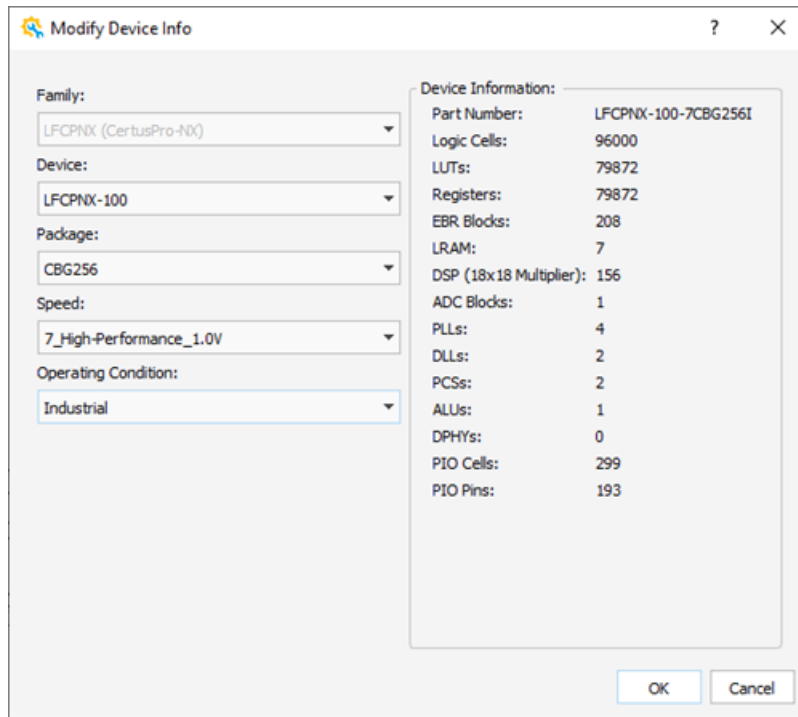

Figure 2.171. Modify Device Info
1. Double click the device part number from the Design View (Figure 2.170), the Modify Device Info wizard pops up (Figure 2.171).
2. Use the drop-down menu to choose the desired device in **Device** filed in the Modify Device Info wizard (Figure 2.171). Use the drop-down menu to change the package, speed and operating condition in **Package, Speed, Operating Condition** filed.